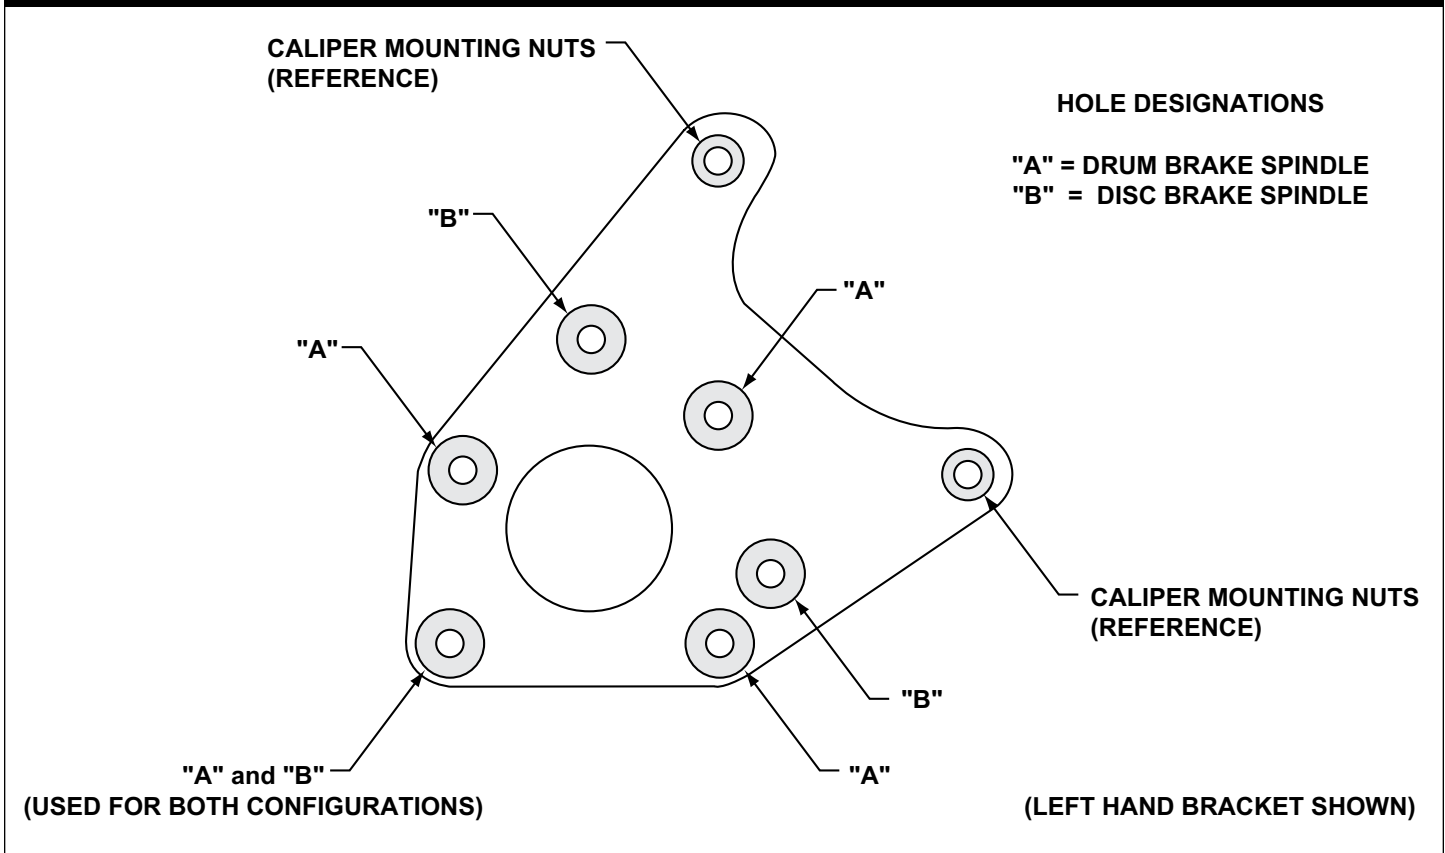
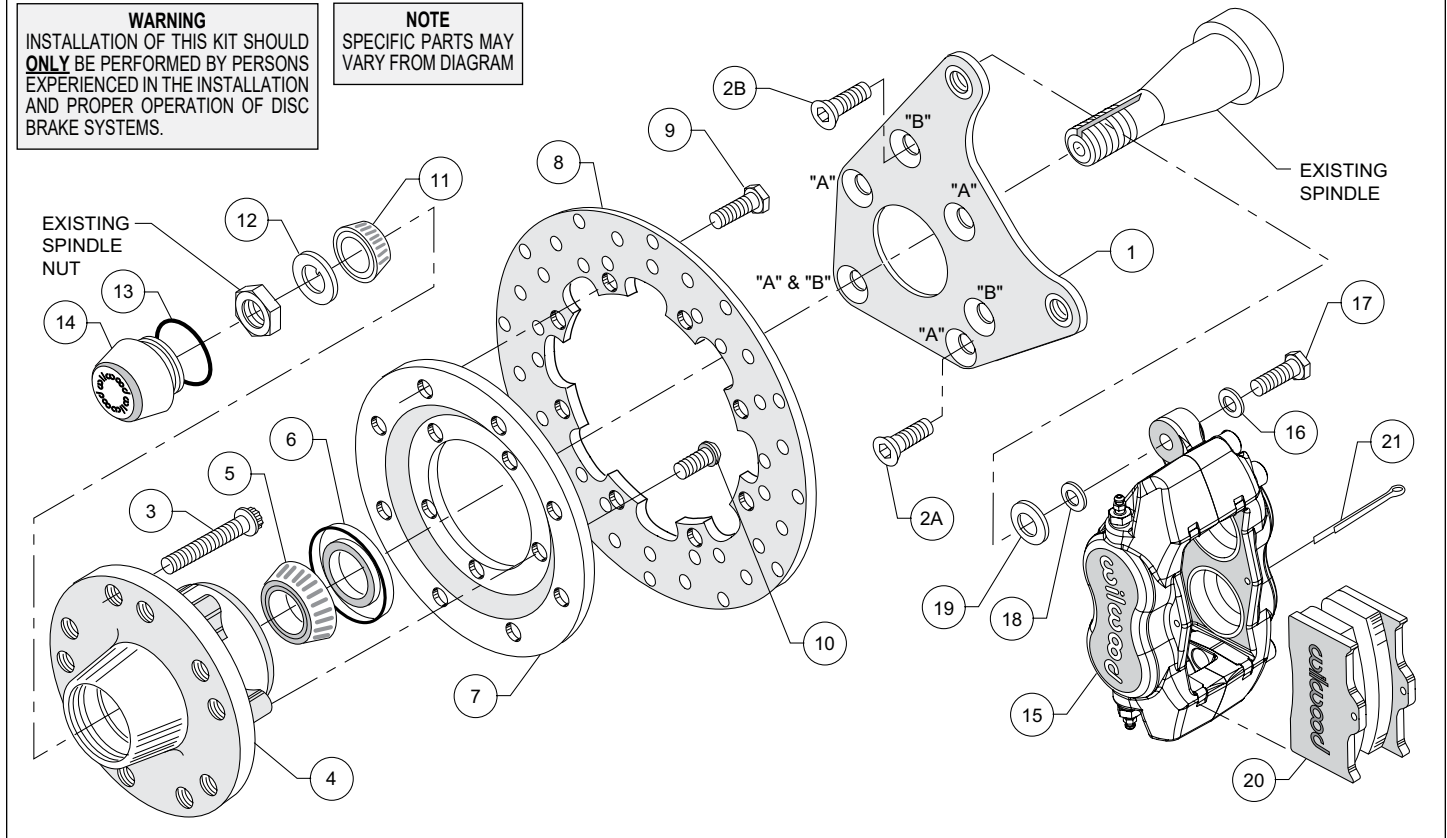
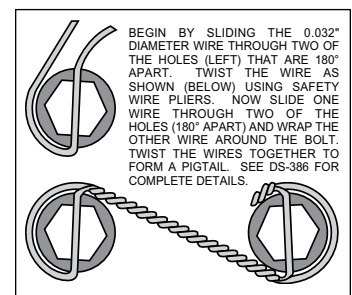

Figure 1. Wilwood Caliper Mounting Bracket
Figure 2. Typical Installation Configuration
Figure 4. Safety Wire Diagram
This kit has been designed for use with both the disc brake or the drum brake configuration of vehicle. The only difference is in how the Wilwood caliper mounting bracket is installed. The same bracket is used for both configurations; the disc brake version utilizes three mounting holes while the drum brake application uses four mounting holes (see Figure 1). For your convenience we have supplied bolt kits for both applications (see parts list and Figure 2 as necessary, item(s) 2A and 2B). Use the bolt kit that is applicable to your vehicle and disregard the other one.
These modifications should be performed by a qualified machinist and completed before assembly of the Wilwood disc brake kit begins. Using the caliper mounting bracket as a template (refer to figure 1 as necessary), locate and verify the three original stock holes on the steering arm that need to be modified. Drill a .332 diameter hole through all three holes, then tap 3/8-24 UNF (fine thread). Countersink the holes to .438 x 90°.
NOTE: Numbers in parenthesis refer to the parts list and Figure 2 on the preceding pages.
•As mentioned before, this kit uses the same mounting bracket (1) for both the drum and disc brake spindle. The drum version utilizes four mounting bolts (designated with a "A"), while the disc only requires three (designated with a "B"). Refer to figure 1 and figure 2 as required for the basic installation position of the bracket and the "A" and "B" reference designations (these designations are not physically marked on the bracket, they are referenced on the drawings for your convenience) and align using the three or four holes (as applicable) to the face plate of the steering arm. Install bolts (2A or 2B) through caliper mounting bracket (1) into steering arm, finger tighten only. After you are positive of the bracket (1) alignment, remove the mounting bolts (2A or 2B) one at a time and Apply red *Loctite*® 271 to bolt threads (2A or 2B), then reinstall. Torque bolts (2A or 2B) to 30 ft-lb. **NOTE:** Be sure the heads of the bracket (1) insert nuts are facing outward toward the wheel.
•Install wheel studs (3) into the hub (4). Torque to 77 ft-lb. **NOTE:** There are two (2) five lug patterns in the hub (5 x 4.50 and 5 x 4.75). Make sure of the correct hole pattern for the correct wheel application before installing studs into hub.
•Pack the large inner bearing cone (5) with high temperature disc brake bearing grease (available from your local auto parts store) and install into the backside of the hub (4).
•Install the grease seal (6) by pressing into the backside of the hub (4).
•Attach rotor adapter plate (7) to rotor (8) using bolts (9). Apply red *Loctite*® 271 to the bolt threads and torque to 25 ft-lb using a criss-cross pattern. For an added measure of security, the bolts may be safety wired using standard 0.032 inch diameter stainless steel safety wire as shown in Figure 4. Please refer to Wilwood's data sheet DS-386 (available at www.wilwood.com/Pdf/DataSheets/ds386.pdf) for complete safety wire installation instructions. **NOTE:** Dished side of adapter plate (7) should face hub (4). The machined tab side of the iron rotor (8) should face the adapter plate (7).
•Mount the adapter/rotor assembly (7/8) to the hub (4) using bolts (10) (finger tight), as shown in Figure 1. Using an alternating sequence, remove bolts one at a time, apply red *Loctite*® 271 to the threads, and torque to 45 ft-lb.